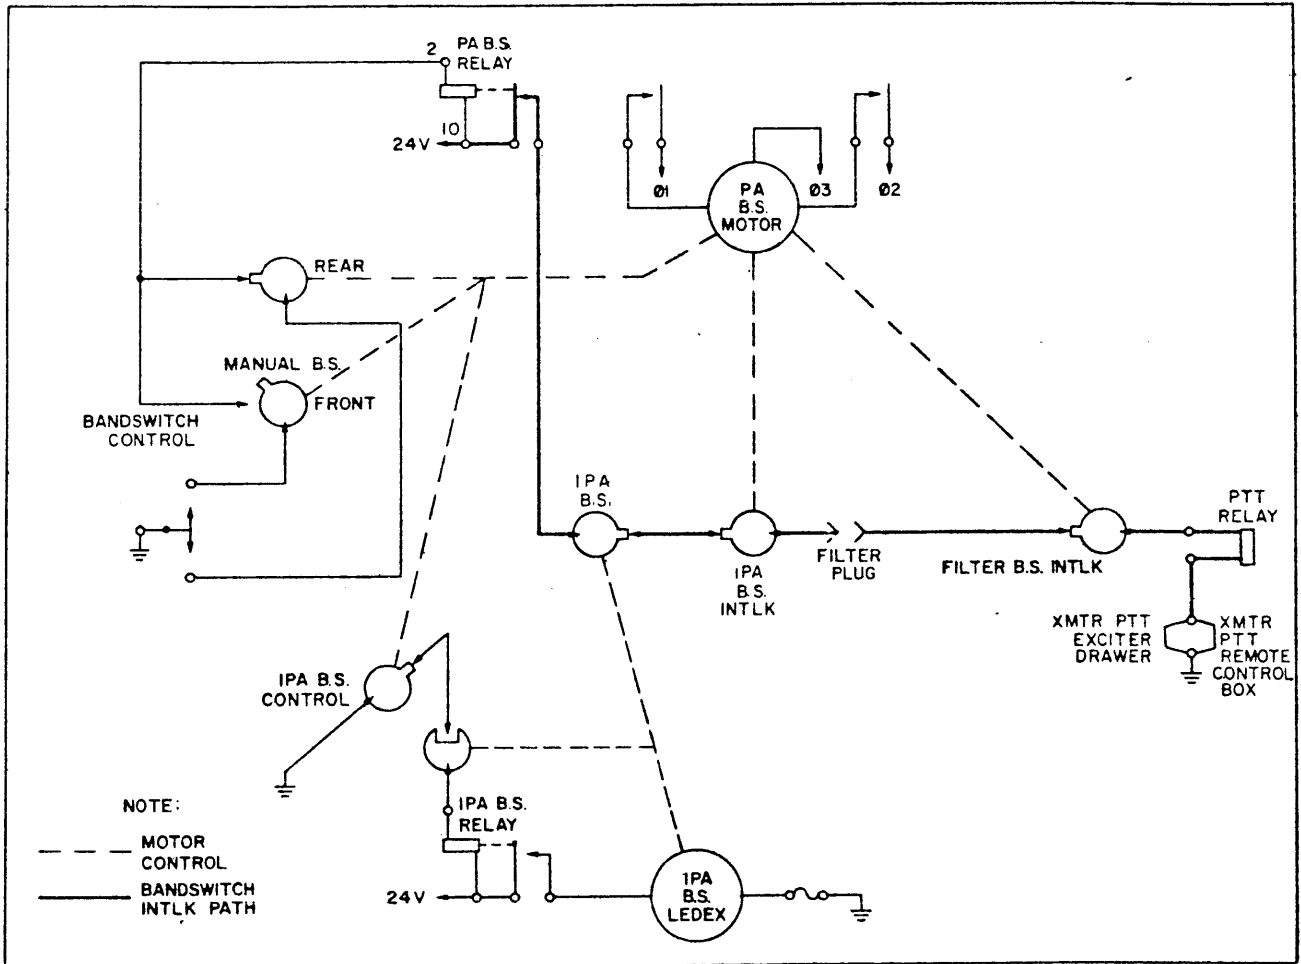

Figure 4-5. Bandswitch Control
d. Bandswitch Control. (Refer to figure 4-5 and 7-5)
(1) General - Bandswitching within the HFLM is performed with the PA BANDSWITCH control.
(2) Detailed Circuit Analysis - Bandswitching is accomplished by providing a ground to the PA bandswitch. The ground thus provided will then be routed to the PA bandswitch relay which supplies ac voltage to the PA bandswitch motor.
(3) Manual Control - Pin (X) on XA2001 provides ground to the common arm of the bandswitch control lever (S5004). The two poles of this switch are connected to pins (i) and (j) of J1 (Bandswitch Control Assembly). When the neutral arm is moved to the right, the ground picked up at pin (i) is routed through PA bandswitch manual control rear wafer to pin (2) of the PA Bandswitch relay K1. Pin 10 of the PA bandswitch relay has a fixed +24vdc applied. The PA bandswitch relay energizes, routing phase 1 and 2 from pins (A) and (B) of J2 to the PA bandswitch motor A704B1. With phase 3 already present on the motor from pin (C) of J2, the motor moves the switches coupled to it, one position. The PA bandswitch manual control, rear wafer having moved one position in a counterclockwise direction, has moved into an open position (2.3-2.6 band) therefore removing the ground to the PA bandswitch relay. To move the PA bandswitch motor further, the ground on the common arm must now be supplied to pin (j), or the arm must be moved to the left. Moving the neutral arm to the left will now supply a ground to the PA bandswitch relay through the PA bandswitch control, front wafer moving the PA bandswitch motor one more position. Therefore, the PA bandswitch manual control lever must be moved to the left and right to move the PA bandswitch in a stepping manner.